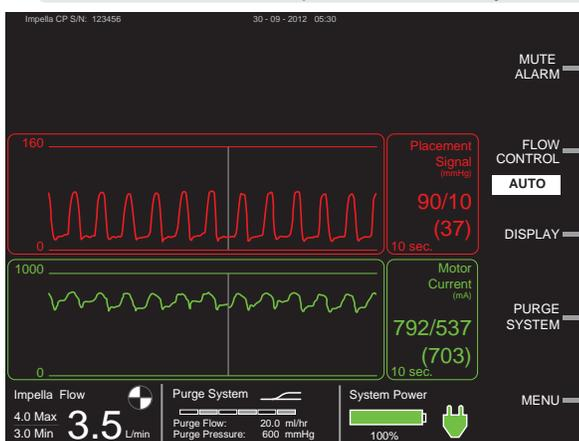

Figure 5.38 Ventricular Waveform on Placement Signal Screen
7. If the Impella® Catheter advances too far into the left ventricle and the controller displays a ventricular waveform (see Figure 5.38) rather than an aortic waveform, follow these steps to reposition the catheter.